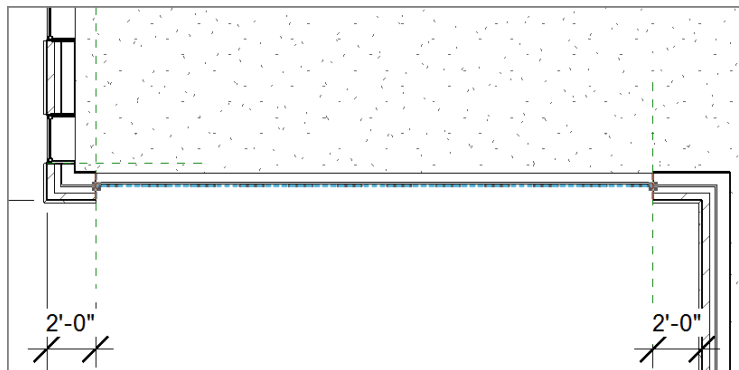

FIGURE 16.28: Drawing the curtain wall at the centerline of the wall between the two reference planes
14. Draw the wall at the centerline of the wall between each reference plane, as shown in Figure 16.28. Note that if you draw from left to right, the exterior face of the new wall will be to the inside.